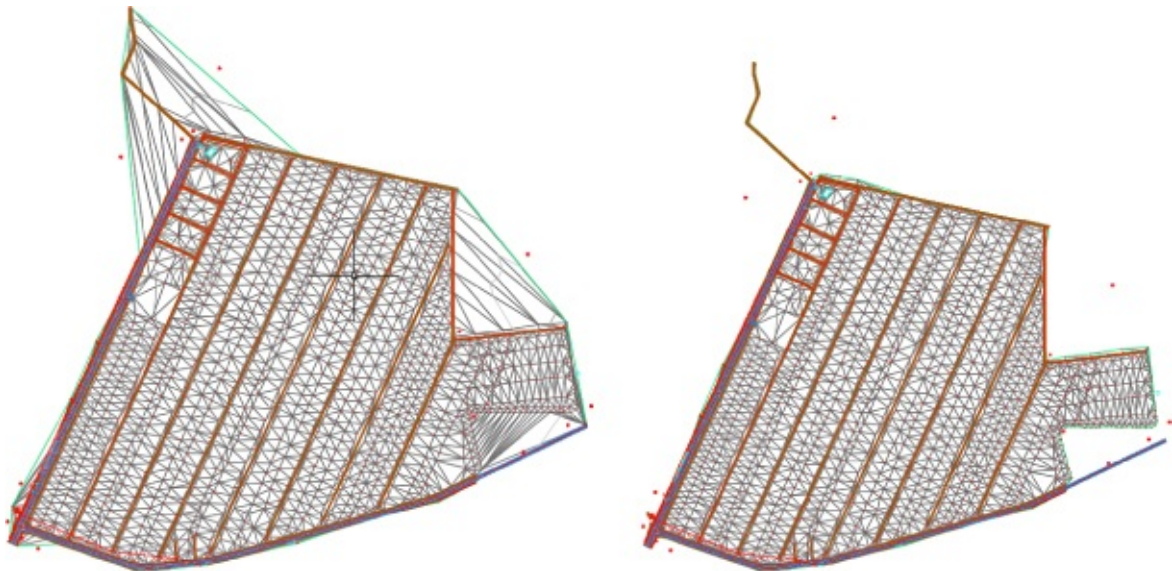

Figure 4.33 Surface before removal of extraneous triangles (left) and after (right)
7. Repeat this process, for the following segments, removing triangles until your site resembles the image on the right in Figure 4.33.